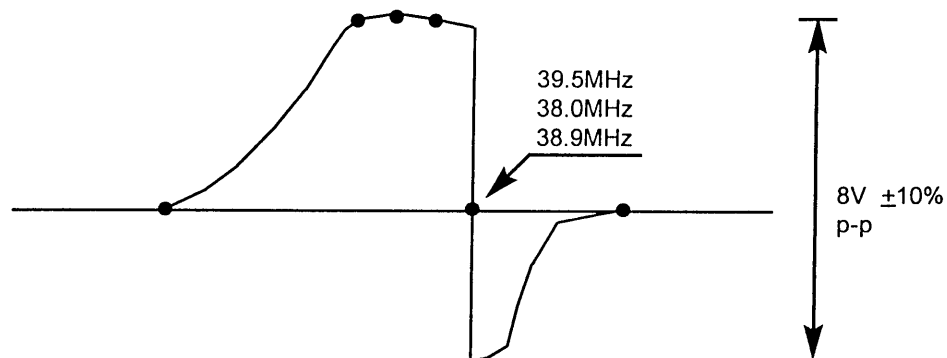

Fig. 5
C. TANK COIL ALIGNMENT STEP (see Fig. 5)
8. Adjust T101 to obtain the waveform as Fig.5.